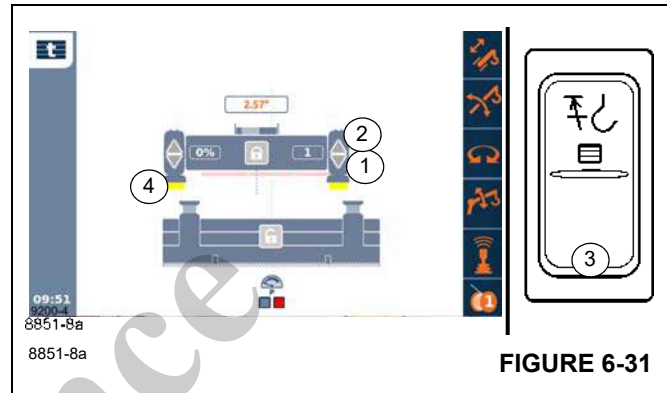

FIGURE 6-31
Assuming the symbol (4), (Figure 6-31) is yellow with the counterweight unrigged:
- Press the override button (3), (Figure 6-31).
- Fully extend the lifting cylinders – symbol (1), (Figure 6-31).
- Release the override button (3), (Figure 6-31).
- Fully retract the lifting cylinders – button (2), (Figure 6-31).
The symbols (4), (Figure 6-31) become green.